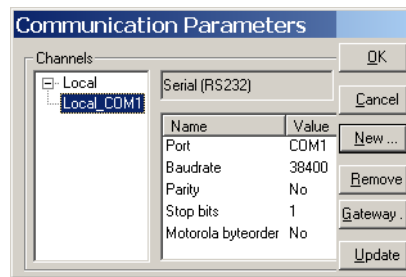

Figure 48: Defining the PC's communication settings
- ▶ Use the remaining settings as shown in Figure 48.